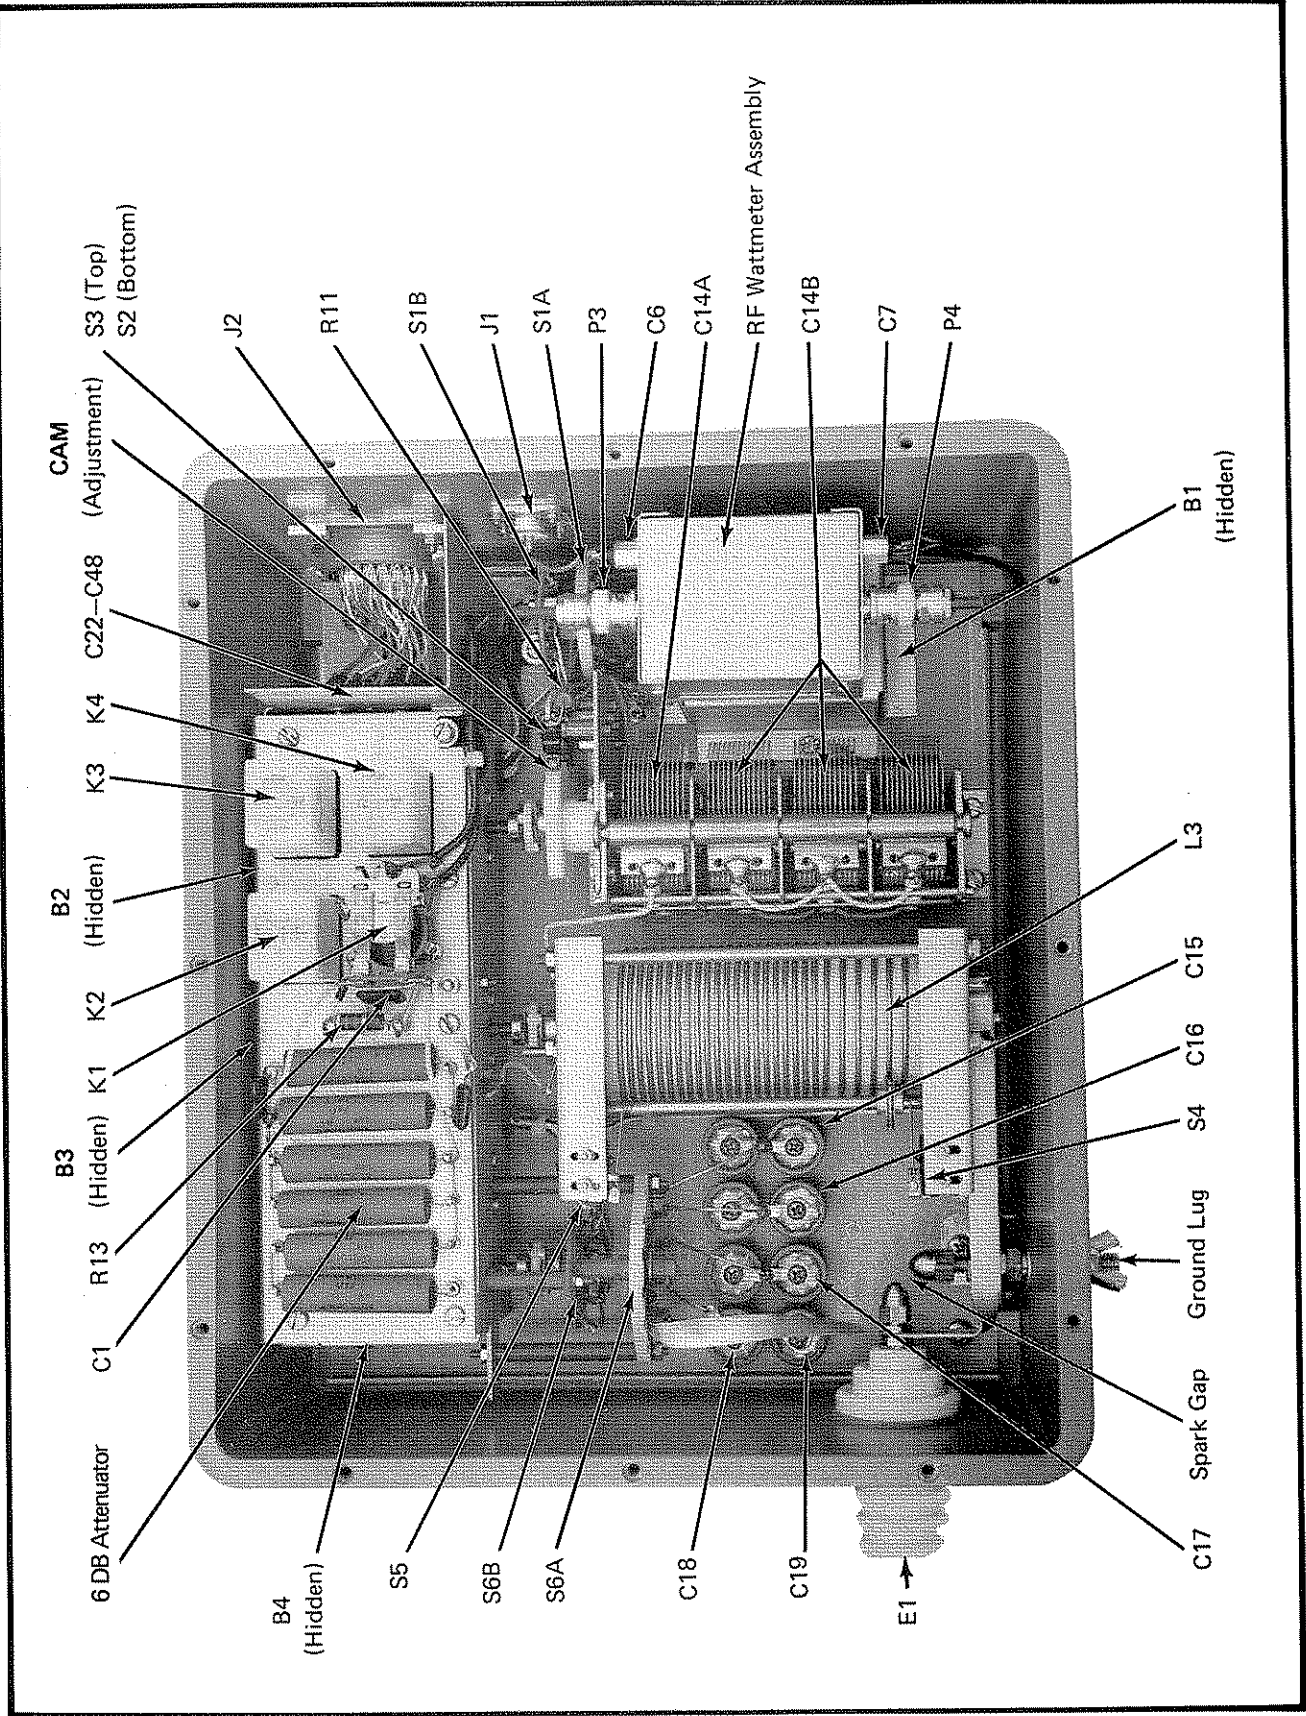

Figure 5.1 Parts and Alignment Points Location
- e) Loosen the two nuts (marked "A" in figure 5.1) securing switch S1 to the L-shaped mounting bracket and rotate the front and rear sections of this switch in opposite directions to properly correct the indexing error.
- c) Loosen the two screws (marked "B" in figure 5.1) securing the front (phenolic) switch section S6B to the L-shaped motor mounting bracket and carefully rotate S6B in the proper direction to correct the alignment error. Tighten the screws.